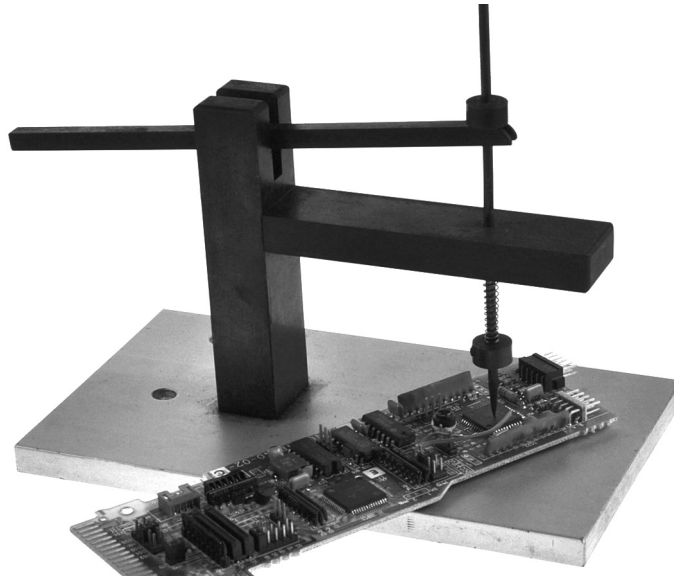

Fig. 6
- 19 Fig. 6 shows a jig used for holding surface mounted electronic components in place whilst soldering.